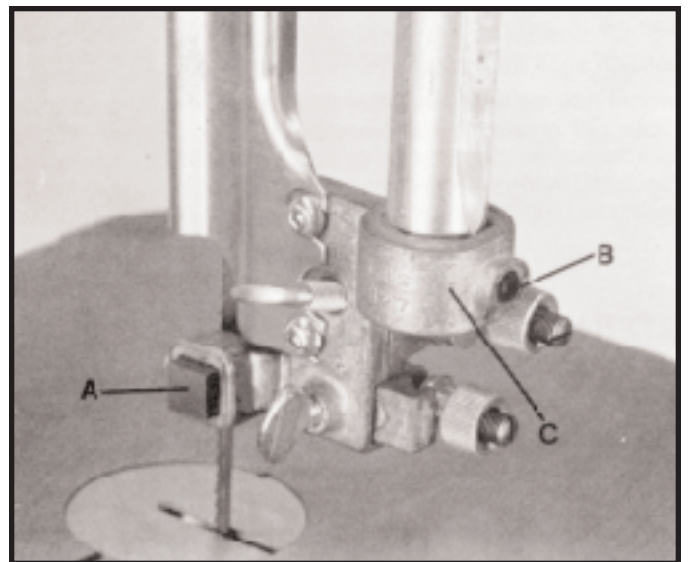

Fig. 44
The upper blade guide assembly should also be adjusted so that the blade guides (A) Fig. 44, are flat with the blade. If an adjustment is necessary, loosen screw (B) and rotate the complete guide assembly (C) until the blade guides are flat with the blade.